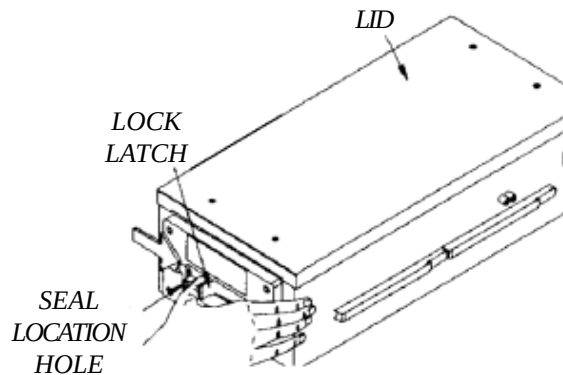

Figure 4-3. Opening the cassette.
1. Remove the seal from the location hole if present. (Figure 4-3). Push the lock latch to the right. If necessary, push down on the lid to relieve pressure from the lock. The cassette is now open and the lock is primed for insertion into the dispensing mechanism.